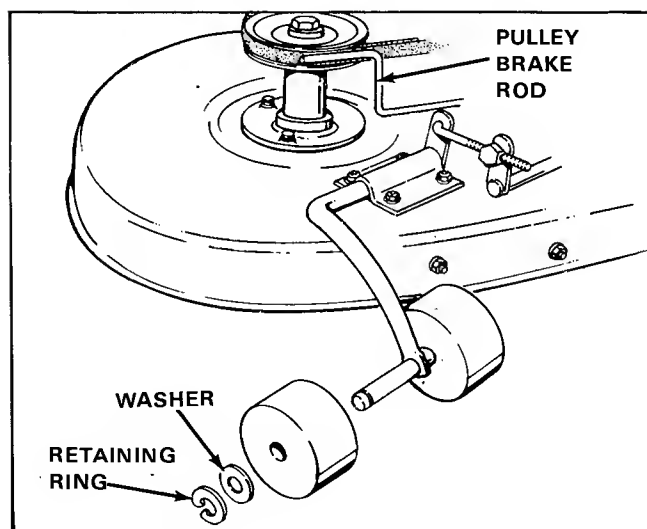

Figure 48. Installing Rollers
1. Install the rollers on the wheel support assemblies with 5/8 x 1-1/4 plain washers and the retaining rings as shown in figure 48.
9. Check to be sure the pulley brake rod (partially shown in figure 48) seats itself on the belt in both arbor pulleys. If not, loosen two screws on its holddown bracket and allow the spring to position the rod so that it bears against both pulleys. Retighten the two screws.